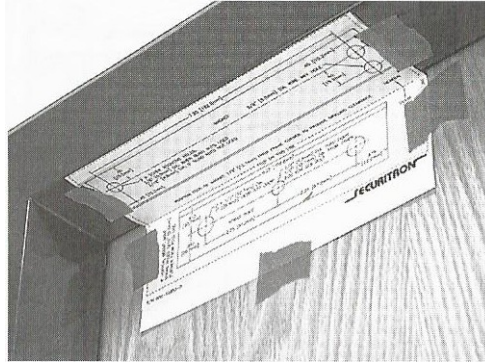

Figure 4. Attaching the Template
2. ATTACH the template to the door and frame as shown in Figure 4, "Attaching the Template."